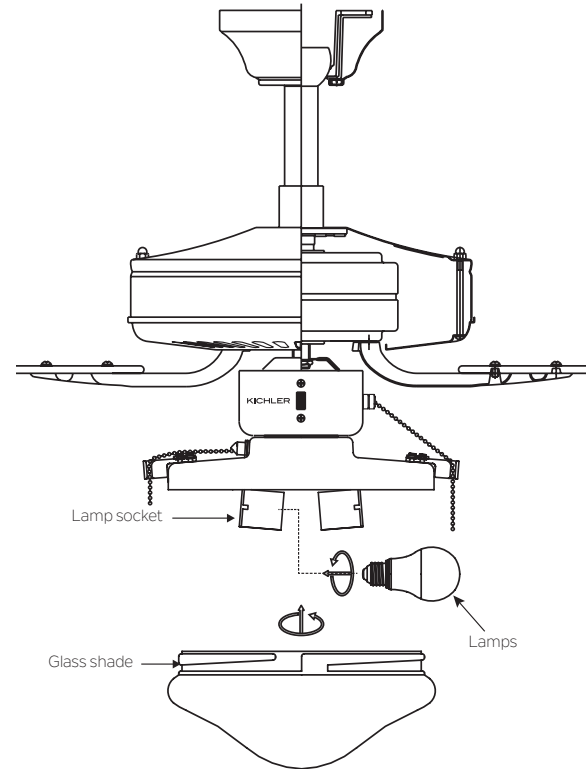

Fig. 3
1. Install both of the 9 watt E26 LED lamps (provided), one in each fixture socket. (Fig. 3)
2. Mount the glass shade to the light kit by turning the glass shade clockwise. **DO NOT OVER TIGHTEN.** (Fig. 3)